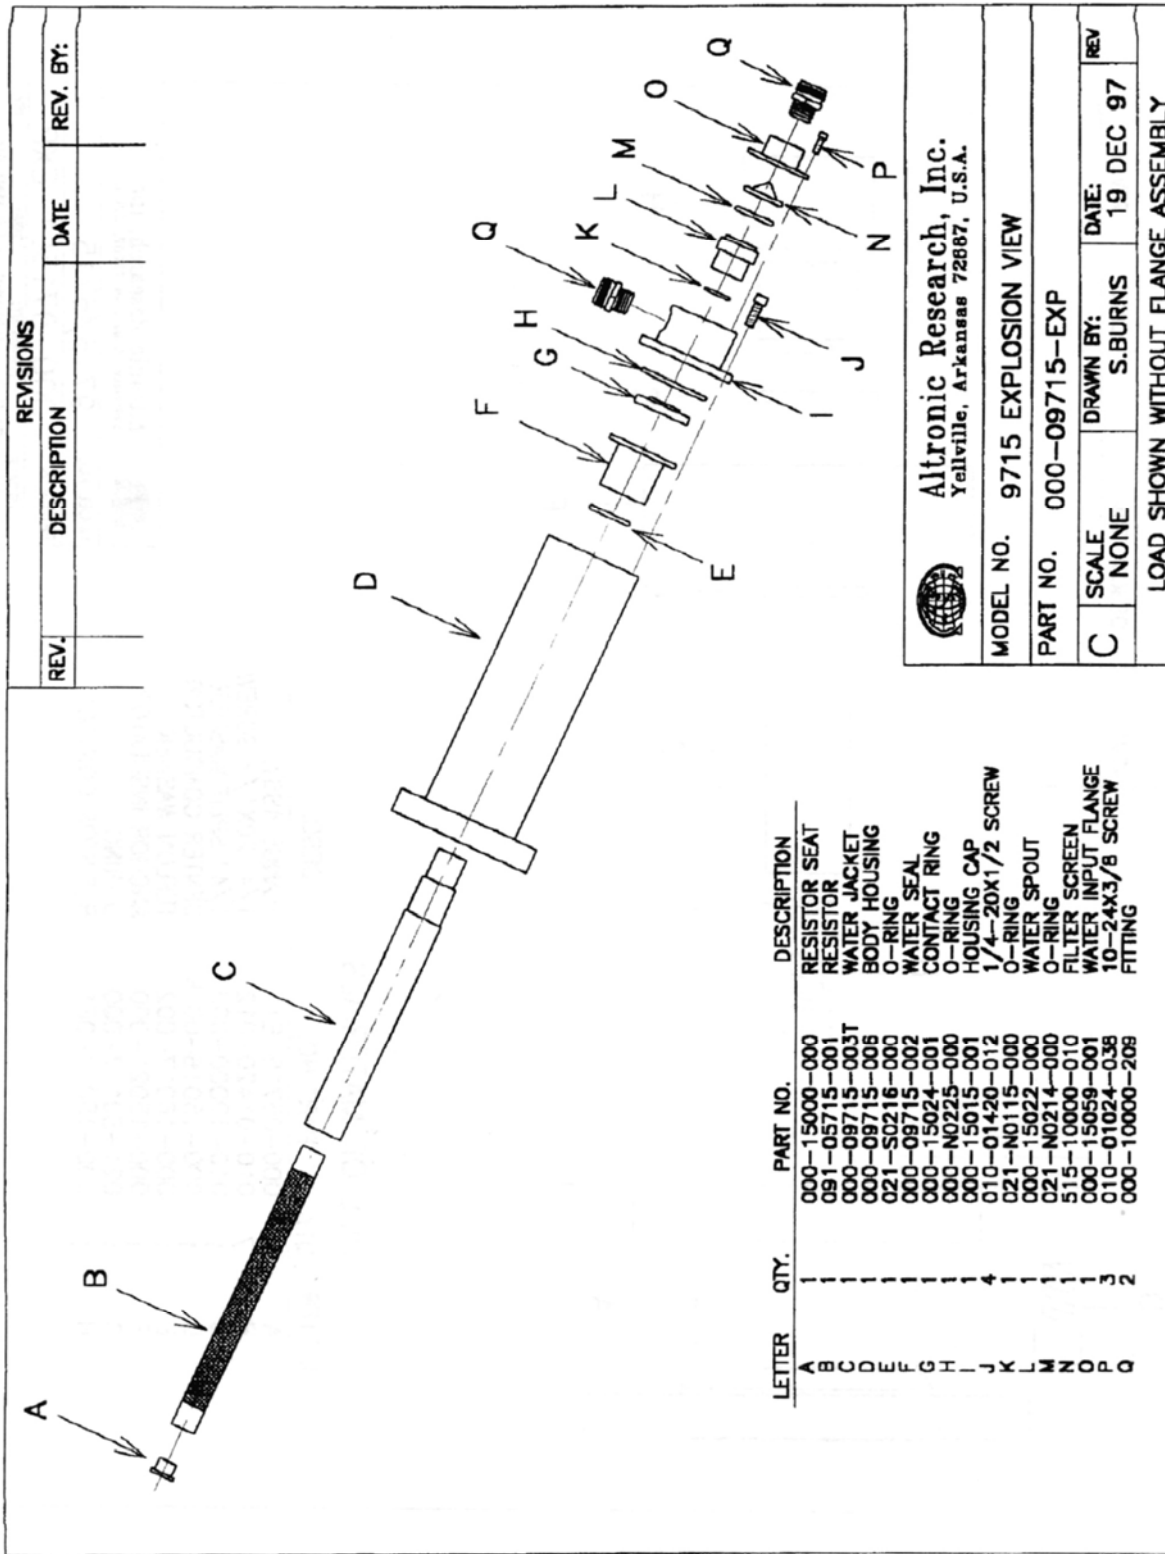
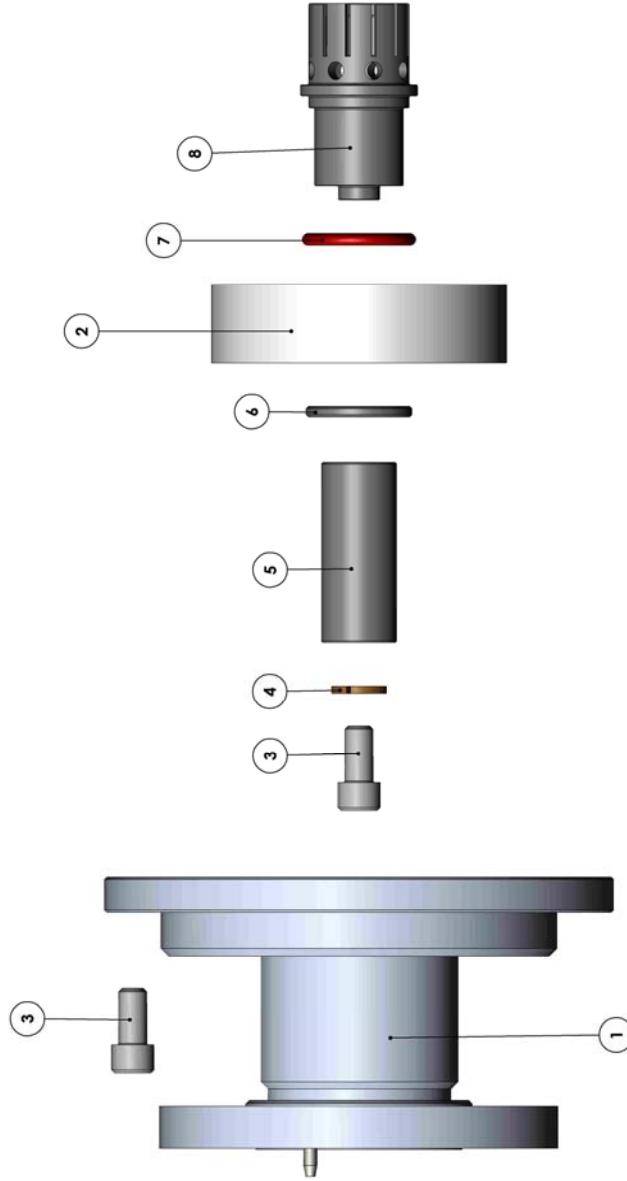

Fig. 14
Fig. 15
4. **Resistor Replacement** - (Refer to Fig. 14) To replace the resistor element, remove the three 10-24x3/8" cap screws (item P). Remove water input assembly (items N, O, and Q). Inspect filter screen for damage, replace if eroded or torn. Remove four 1/4-20x1/2 cap screws (item J). Remove housing cap assembly (items G, H, I, Q, K, L and M). Inspect all O-rings for distortion or damage. Replace if pinched, cut, burned or no longer round in cross
5. **Removal of RF Input** - (Refer to Fig. 15) To remove the RF input line adaptor flange, remove six 1/4-20x1/2 socket head screws (item B) that secures the line adaptor flange (item A) to the load body housing (item D, Fig. 14). The RF input assembly consisting of the center conductor, anchor insulator and front resistor contact (items B, C, D, E, F, G and H) will normally remain in the load body. Grasp the center conductor (item D) by hand and attempt to pull the input assembly out of the load body using slight side to side motion while pulling. If strong resistance is encountered, it may be necessary to chill the load to allow the anchor insulator to shrink away from the load housing. This can be done by placing the load in a freezer, or packing the load in ice for 20 to 30 minutes. Once the anchor insulator has shrunk away from the load housing, the RF input assembly should be easily removed. At this point of disassembly, all components of the load can be inspected or replaced as needed. Reassembly should be done in the reverse order of sequence.